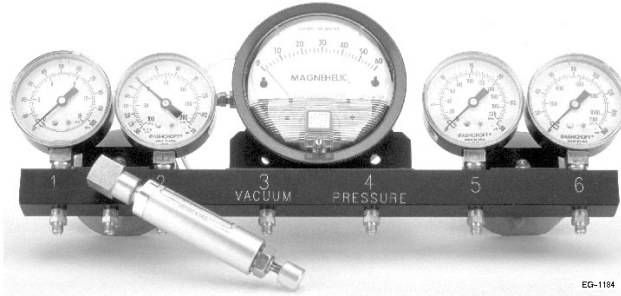

Figure 188 Gauge Bar Tool (PS94-831-3)
Gauge Bar Tool (See Figure 188, page 382) can be used to measure intake manifold (Boost) pressure, fuel pressure, air cleaner intake restriction, fuel restriction, exhaust restriction and crankcase pressure.
- Gauge Bar (PS94-831-3) (See Figure 188, page 382)